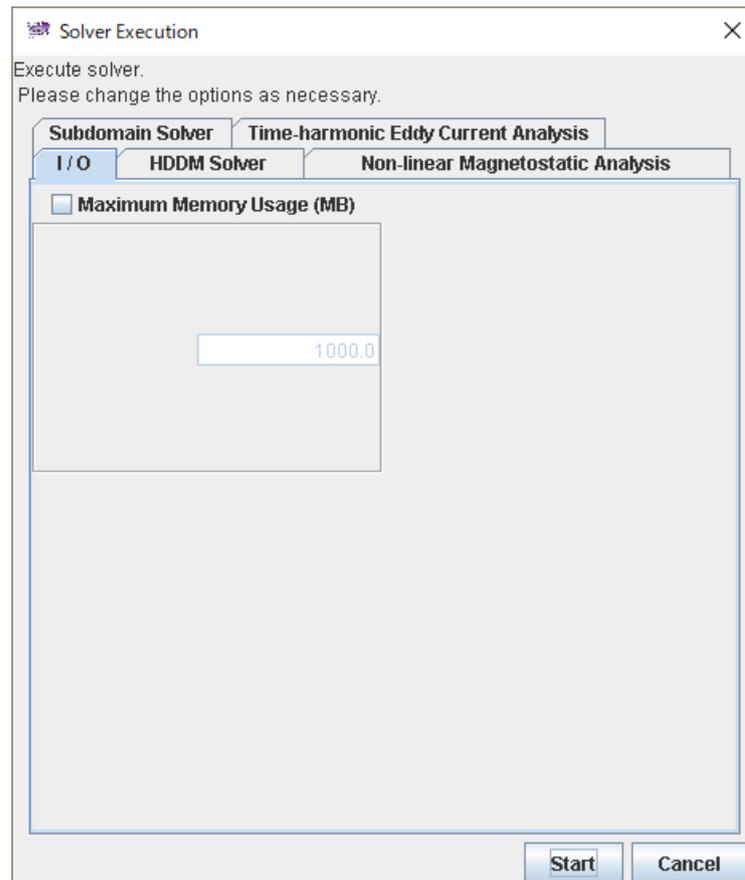

Fig. 2.7-2 Solver Execution Dialog (I/O Option)
Calculation by solver is started. When you select "Analysis" -> "Run Solver", the solver execution dialog (Fig. 2.7-2) is shown. In the solver execution dialog, you can change various analysis condition options provided in the solver. There are four options: "I/O", "Non-linear Magnetostatic Analysis", "Subdomain Solver", and "HDDM Solver".
I/O Option (Fig. 2.7-2)Maximum Memory Usage (MB)